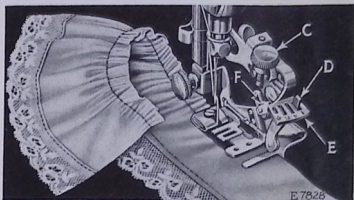

FIG. 43
Raise the needle bar to its highest point and remove the presser foot. Attach the ruffler foot (A, Fig. 42) to the presser bar by means of the thumb screw, at the same time placing the fork arm (B, Fig. 42) astride the needle clamp as shown in Fig. 43.
The adjusting finger (F, Fig. 43) is not intended for gathering and should be moved forward or away from the needle, as shown in Fig. 43.
Raise the adjusting lever (E, Fig. 43) and move it to the left so that the projection (D, Fig. 43) will enter the slot marked "1" in the adjusting lever (E) when the lever is released. The ruffling blade will then move forward and back once at every stitch. Insert the material to be ruffled between the two blue blades, following the line 2 in Fig. 42. Draw the material slightly back of the needle, lower the presser bar and commence to sew.